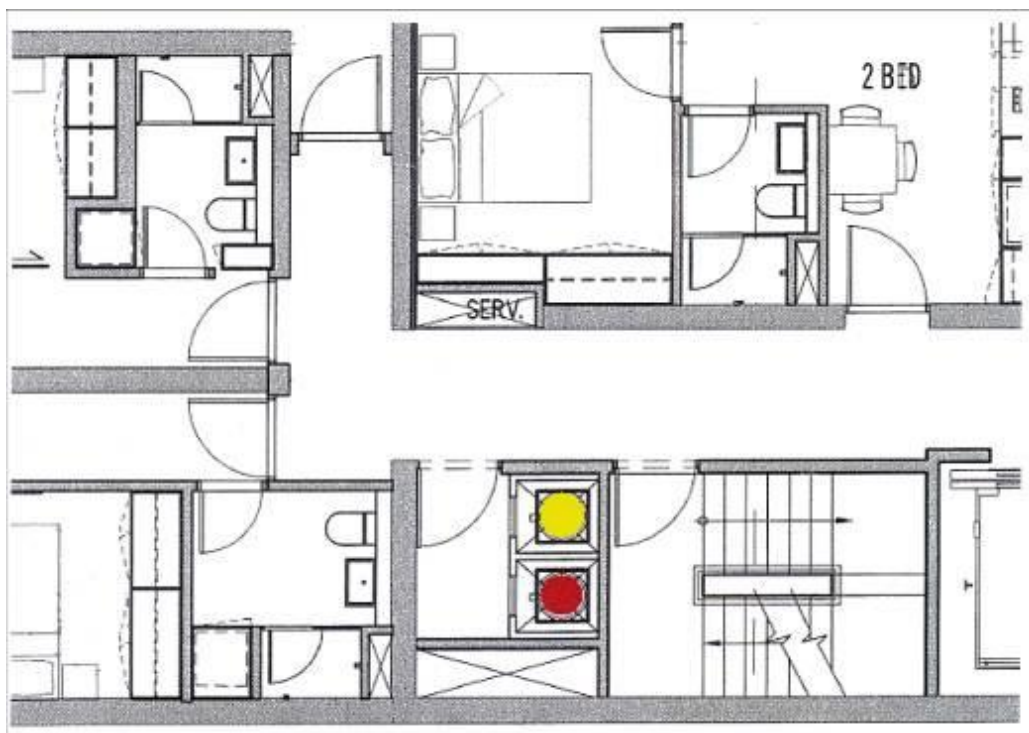

Figure 1 Example scaled waste management plan drawing of bin chute room with colour coded doors.
- MUDs above five storeys must use two separate chutes, with openings on each floor, to enable disposal of both waste and recycling (figure 1).